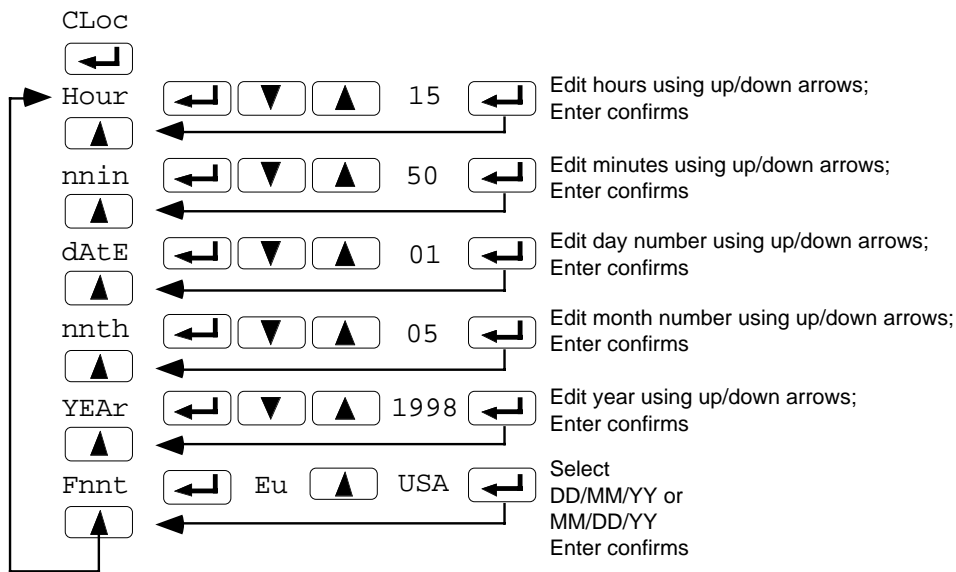

Figure 3.2.6 Time and date setting
Figure 3.2.6 shows the key strokes necessary to set the time and date (in this example to 10 minutes to 4 o'clock pm on the 1st May 1998), and how to set the date format to European (Eu) which is Day/Month Year, or American (USA) which is Month/Day/Year. The clock re-starts at each operation of the Enter key, although it is not printed on the chart until the recorder is returned to its 'on-line' status using the Cancel (X) key.